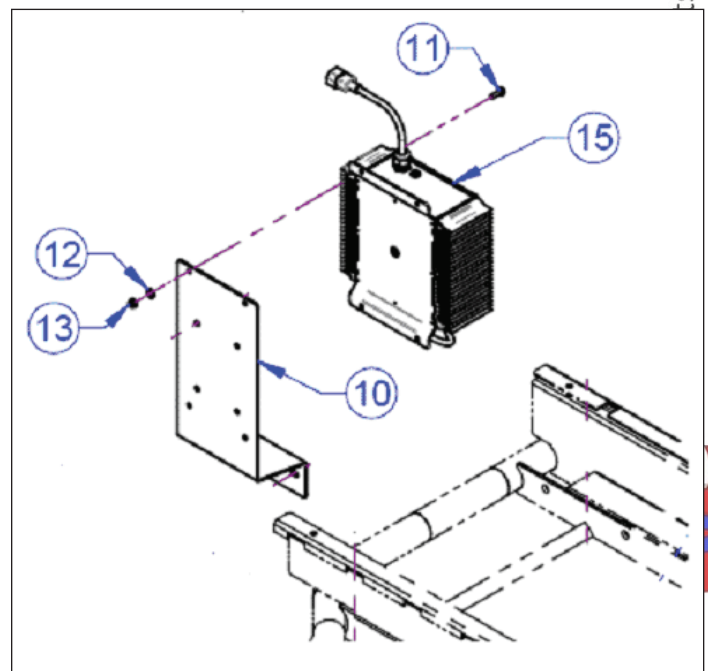
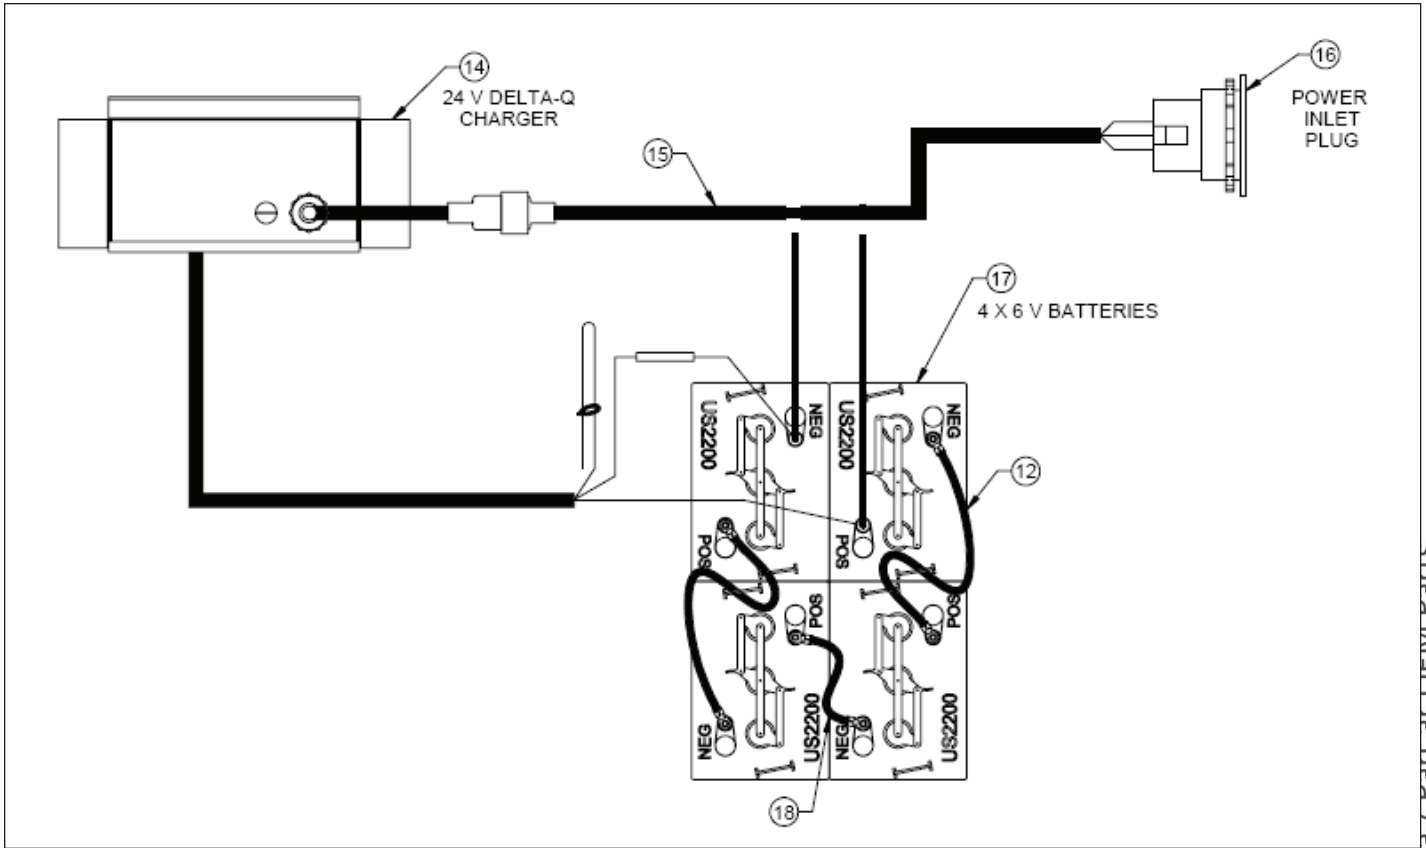

Figure 9-12. Charger and Bracket
Figure 9-13. Charger Wiring
1. Disconnect 4 wires in charger output lead from battery B-, battery B+ and wire 14. Unplug power inlet cable from charger pigtail. See Figure 9-13.
2. Remove four nuts (13), four washers, (12), four bolts (11) and defective charger (15). See Figure 9-12.
1. Position new charger (15), to mounting bracket (10). See Figure 9-12.
2. Secure new charger with four nuts (13), four washers (12) and four bolts (11). Tighten charger attaching hardware.
3. Install charger output electrical leads as follows; black and white to controller B-, red wire to battery B+, green wire to red wire #14 from interlock harness. See Figure 9-13. Plug in cord from power inlet to charger pigtail. Tape the two plugs together so they cannot accidentally separate.